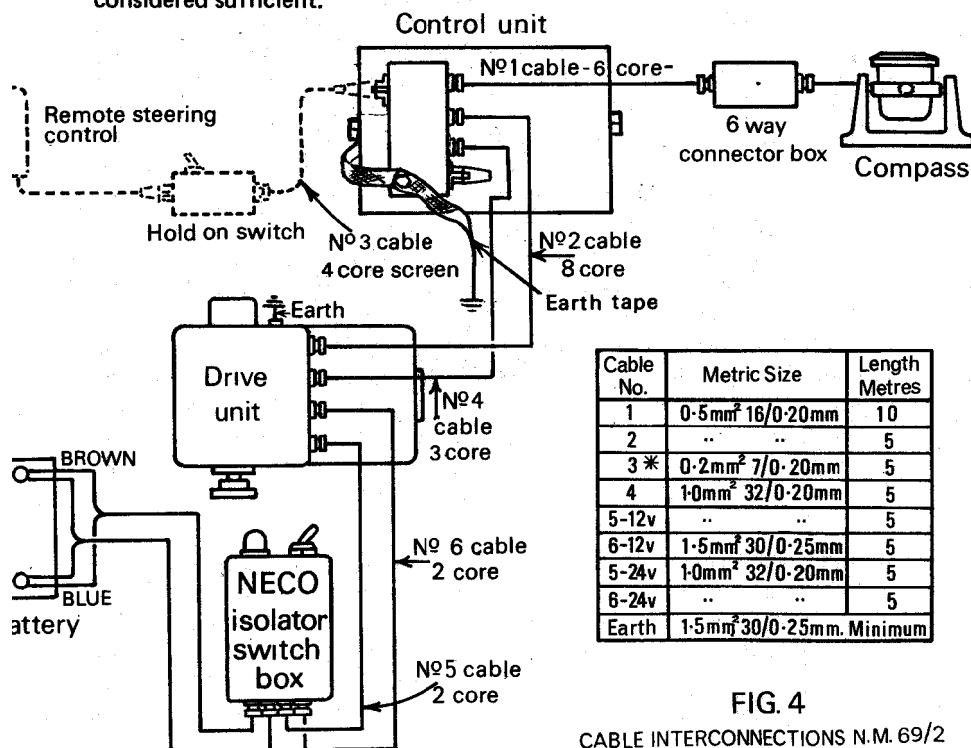
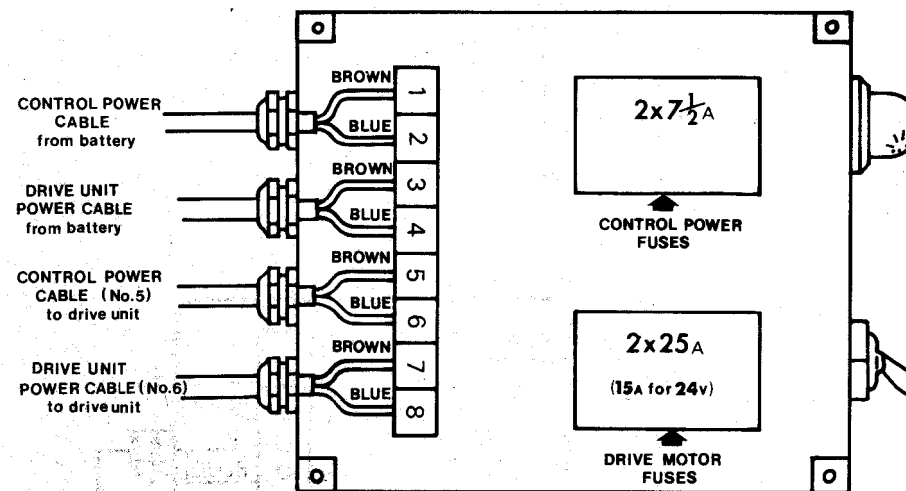

FIG. 4
FIG.10 ISOLATOR SWITCH BOX
**CAUTION.** To avoid rotation of the cables and possible strain it is recommended that all cable glands be tightened BEFORE connecting up the lead-outs. Referring to the Cable Interconnections diagram Figure 4.
- 3.7 **POWER SUPPLIES.** The Drive Unit is supplied with two pairs of power leads factory fitted, as shown in Figure 4. No. 5 cable – The Control Power Cable and No. 6 – The Drive Unit Power Cable. Nos. 5 and 6 cable must **not** be connected to independent batteries, unless either the negative or positive terminals of the two batteries are common. It is recommended that both these cables should be capable of being isolated, each with its own Isolator Switch (10 amp) An Isolator Switch Box can be supplied as an optional extra and is wired up in accordance with Figure 10.
- 3.8 **No. 5 CABLE, CONTROL POWER CABLE** (2-core 1mm2 32/0.20mm) must invariably be routed direct to the battery terminals and never via a cable which is supplying power to the drive unit or other circuits, as shown in Figure 4. Failure to do this will result in poor pilot performance, as the pulse of current taken by the pilot motor by switching (together with the resistance, and possibly more important, the inductance of the cable) can produce a voltage drop of several volts for a few milli-seconds over only a short length of cable, and will cause relay flutter. The Control Unit Illumination is not controlled by the Off/On switch; this can be switched off by turning the brilliance control hard anti clockwise.